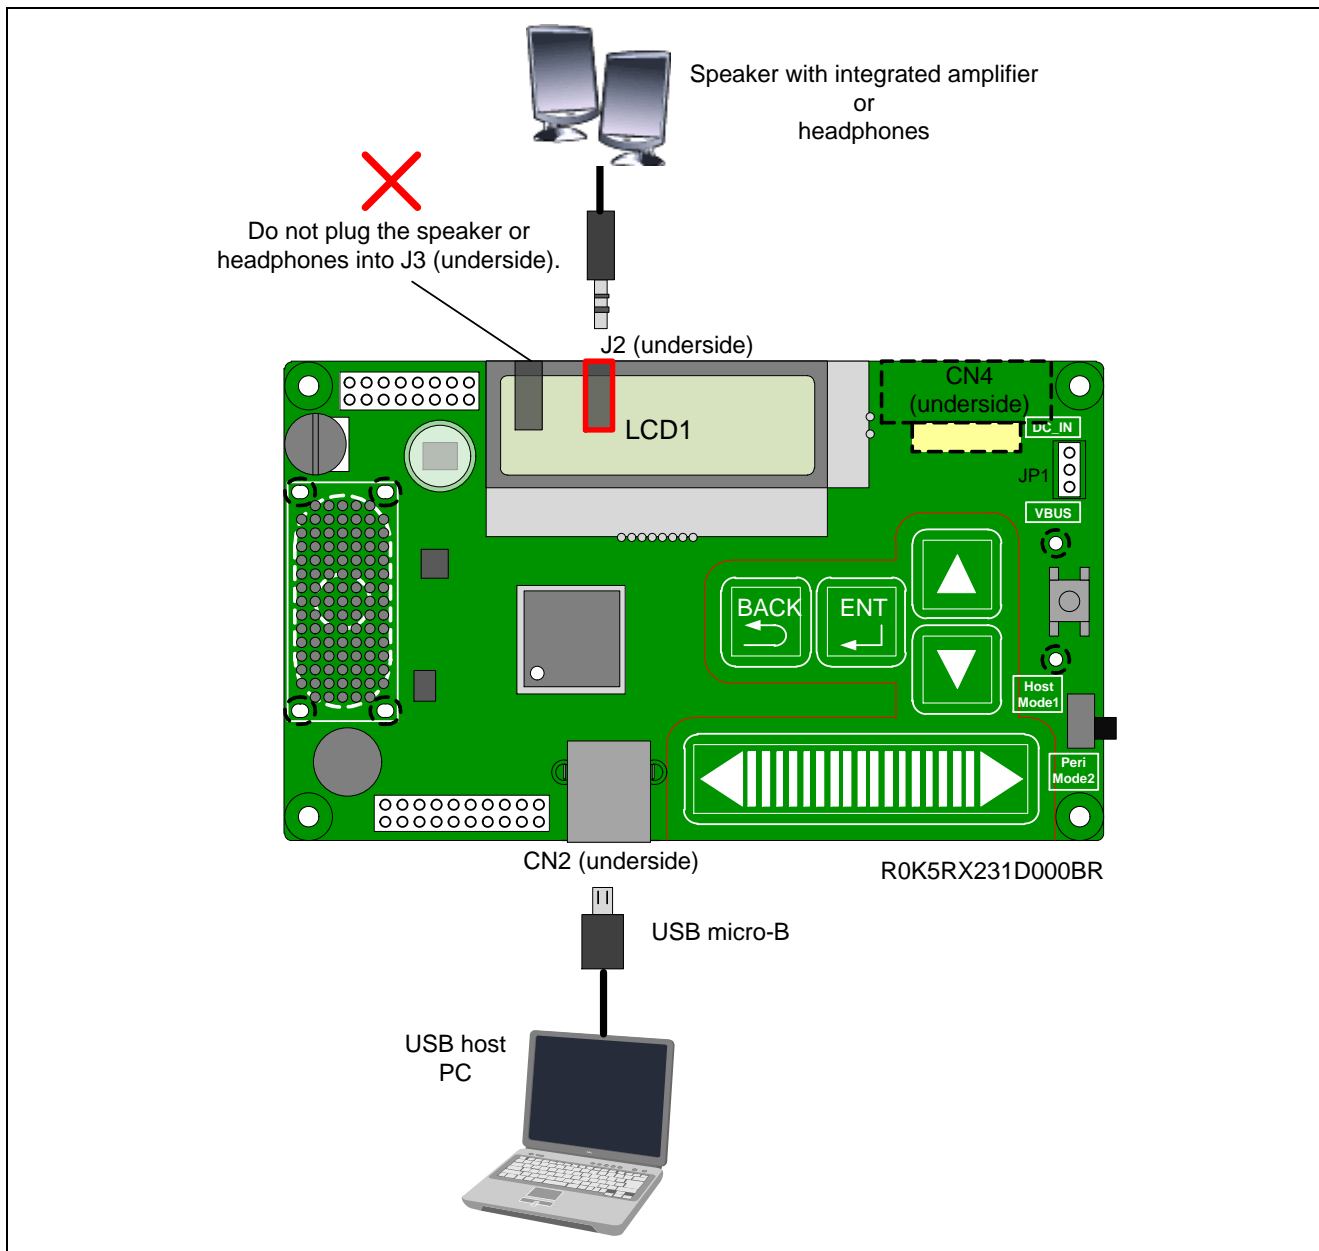

**Figure 2.1 RX231 HMI Kit JP1 Jumper Settings**
2. As shown in Figure 2.1, short JP1 pins 2 and 3 for bus-powered operation. For self-powered operation, short JP1 pins 1 and 2.